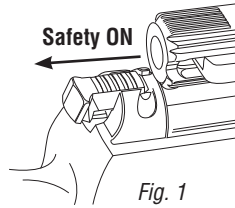

Fig. 1
- To set the safety to 'ON', pull safety button. In this position, the trigger cannot be pulled and the gun cannot be fired. (Fig.1)
**CAUTION:** Until you are actually ready to shoot, keep the safety button in the "ON" position (Fig. 1).